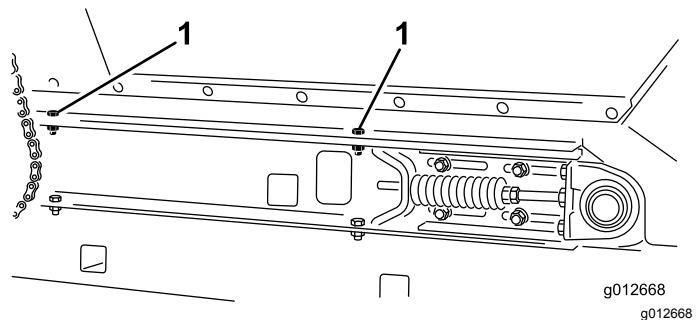

Figure 25
2. At each side of machine, remove 2 capscrews, 2 washers, and 2 locknuts that secure the hopper to slider-frame rails (Figure 25).